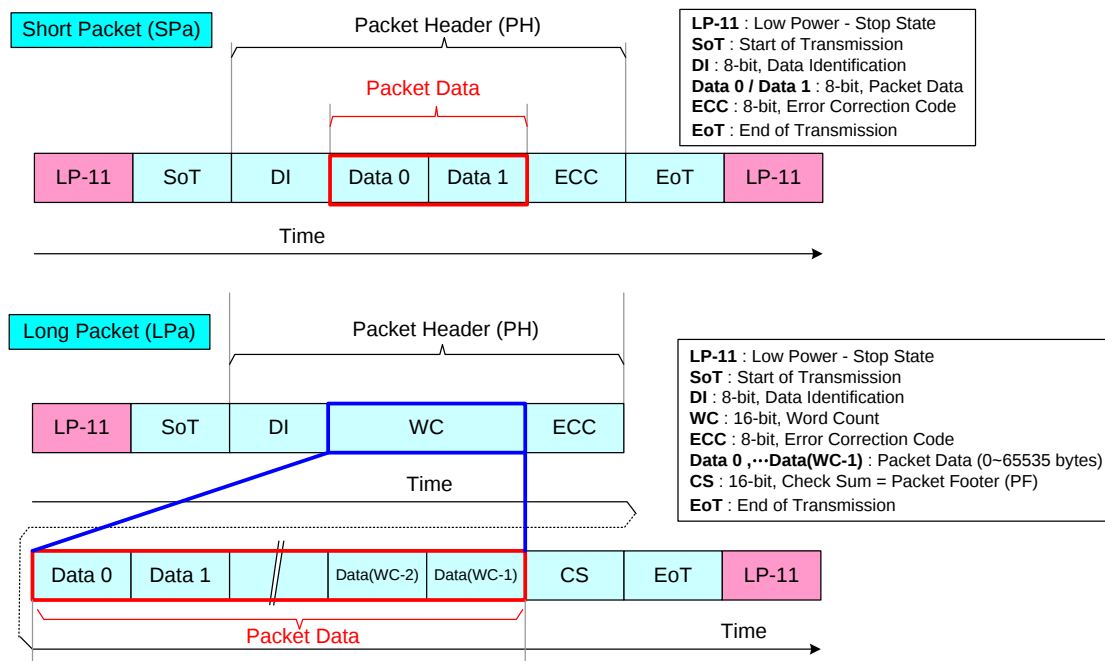

Figure 38: Packet Data in Short and Long Packets
4.4.3.1.3.3. Word Count (WC) in a Long Packet (LPa)
Word Count (WC) of the Long Packet (LPa) is placed after Data Type (DT) of the Data Identification (DI) and indicates that a Long Packet (LPa) is to be sent. Word Count (WC) indicates the amount of data bytes of the Packet Data (PD) that is to be sent after the Packet Header (PH). The location of the Word Count (WC) in a Long Packet is the same as which of the Packet Data (PD) in a Short Packet (SPa), as shown in Figure 38. Word Count (WC) of the Long Packet (LPa) consists of 2 bytes. The sending order of these 2 bytes of the Word Count (WC) is that the Least Significant (LS) Byte is sent first, and the Most Significant (MS) Byte is sent last. Word Count (WC) of a Long Packet (LPa) is illustrated for reference purposes below.